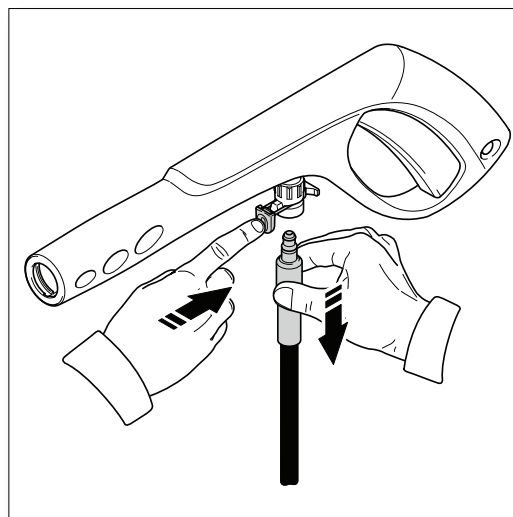

Fig. 6
- To release the hose from the spray gun, press the button on the underside of the gun toward the trigger guard. The hose will slide out from the connection (Fig. 6).